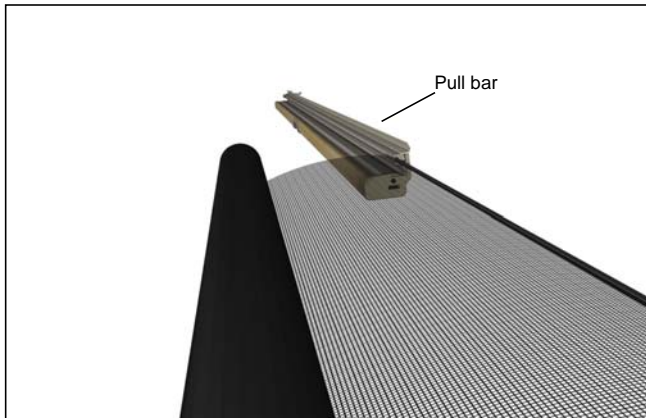

Figure 27 Roll the mesh up tightly.
1. Slide the new screen mesh into the pull bar. See figure 27.